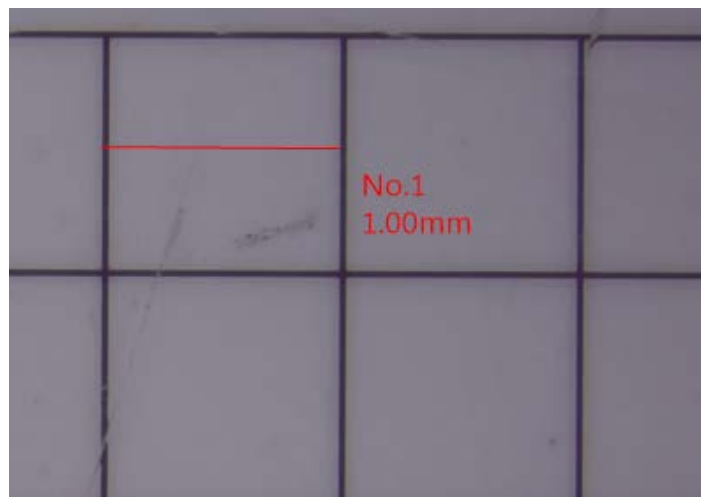

Fig. 5-5 Line Measurement
(1) Line : To simply measure a line who can apply  tool. User can choose Line tool and measure length as $L=1.00\text{mm}$ (L: Length). See Fig. 5-5 shown.